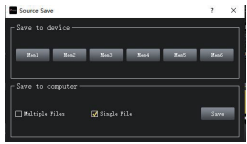
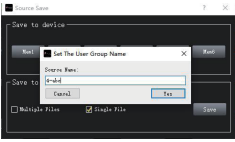

Figure 3.4.2
Figure 3.4.3
Step 2: Click "Save as machine preset scenarios" item will pop up after the Save As dialog window machine preset (Figure 3.4.2).
Step 3: Figure 3.4.2 dialog box, does not show the name of the data indicates that this scene is the factory default data, select the user preset number you want to save the machine location (such as Option 4), and then point below the "save" button, you pop up as shown in Figure 3.4.3," enter the scene name "box. If you select the number of the existing scene name, it will overwrite the original data!